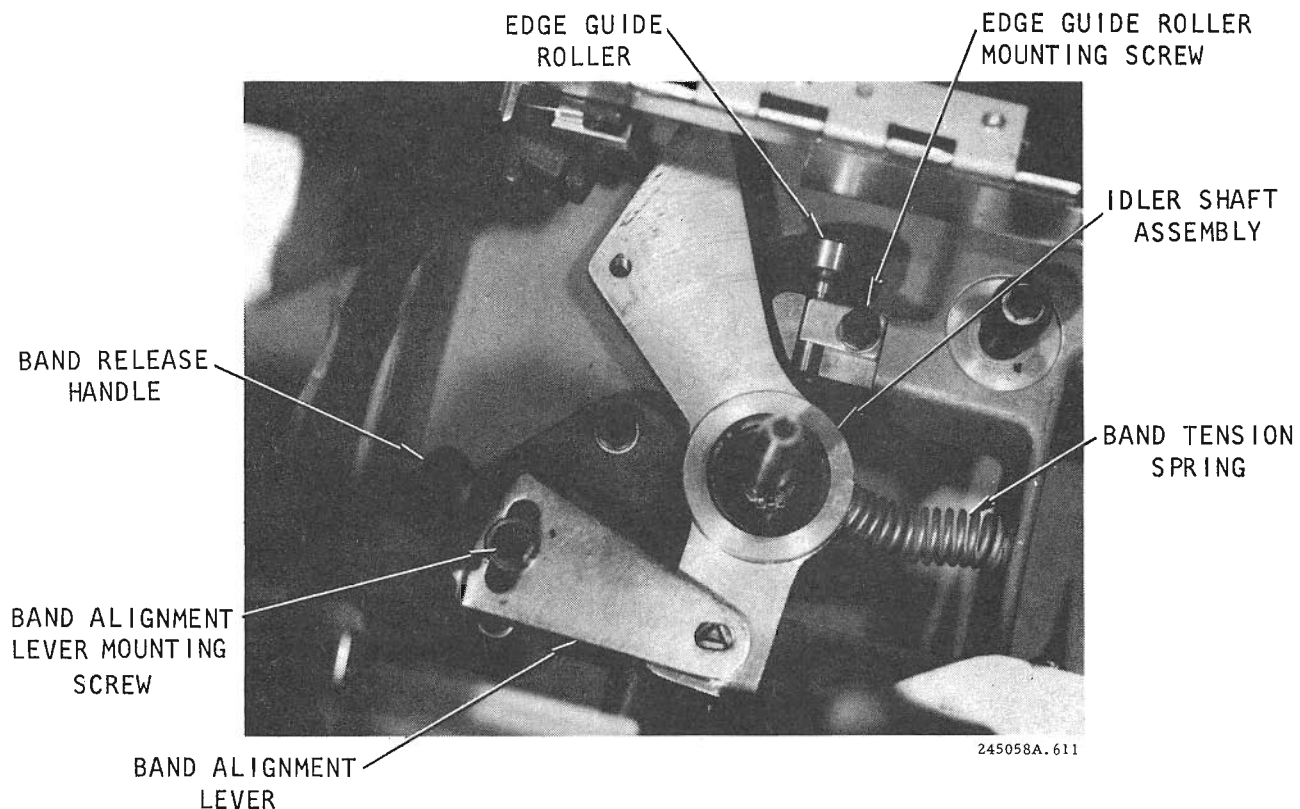

Figure 6-11. Idler Shaft Installed
- e. Remove the band alignment lever mounting screw (figure 6-11) and lift lever up and out. Remove band tension spring.
- b. Insert the band tension spring over the nipple and into the detent (on the idler shaft) as shown in figure 6-11.